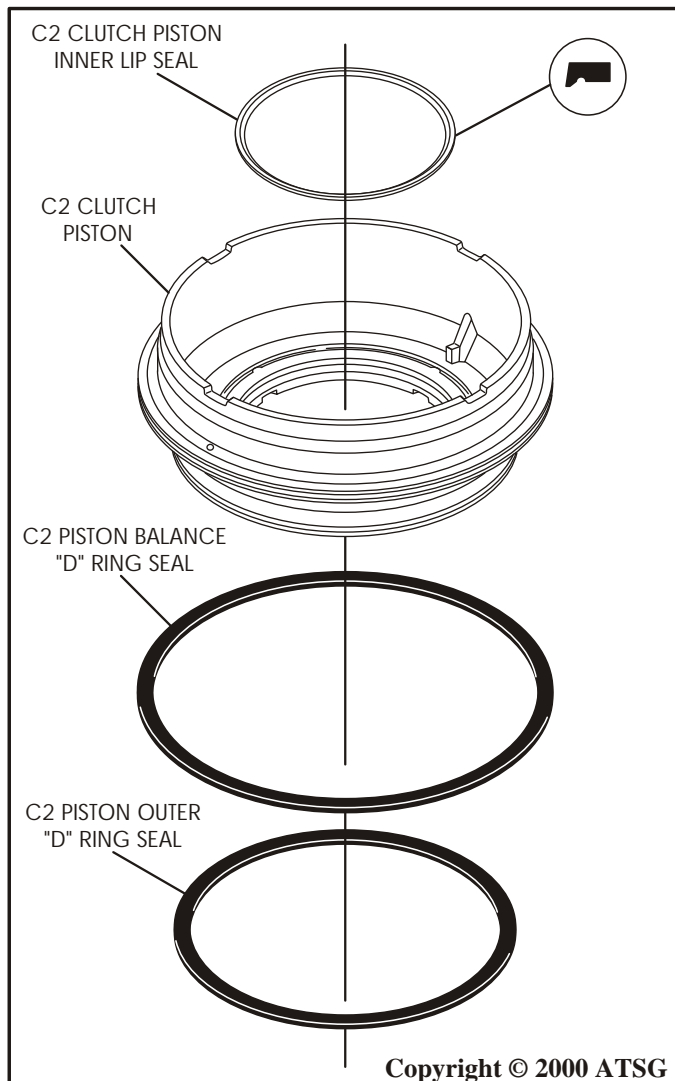

Figure 103
6. Install the C2 clutch piston inner lip seal with the lip facing direction shown in Figure 103.
7. Install the C2 clutch piston balance "D" ring seal into the piston groove (See Figure 103).
8. Install the C2 clutch piston outer "D" ring seal into the lower piston groove (See Figure 103).